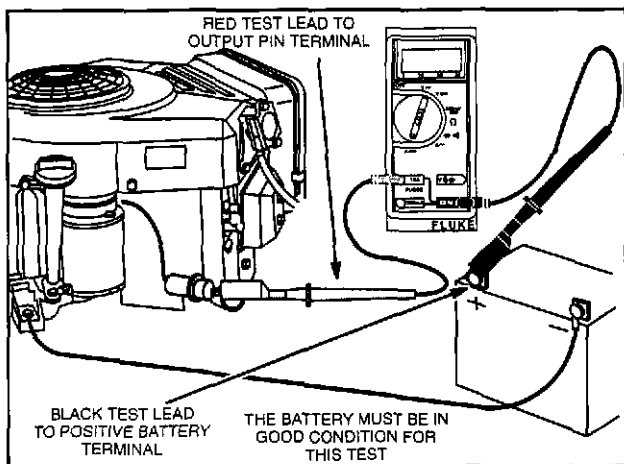

Fig. 12 - Testing DC Output
4. Attach RED test lead clip to DC output terminal, Fig. 12.